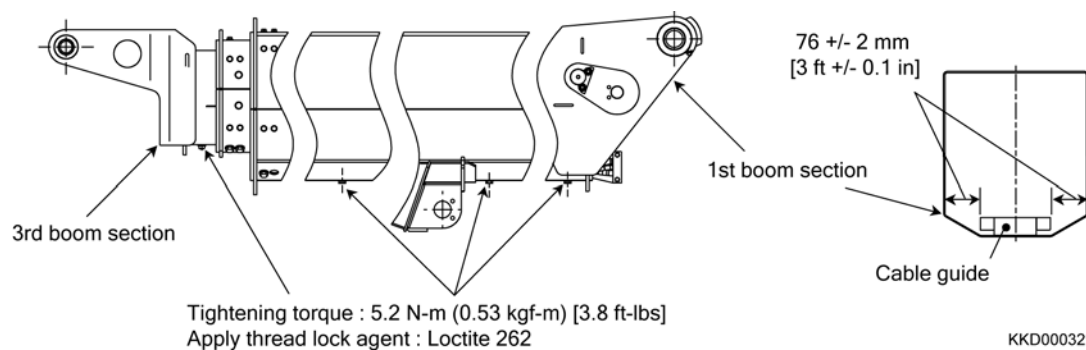

Fig. 2-66
- 11) Fix the cable guide bracket (Lower) to the 1st boom section and cable guide bracket (Upper) to the 3rd boom section. (Fig. 2-66)